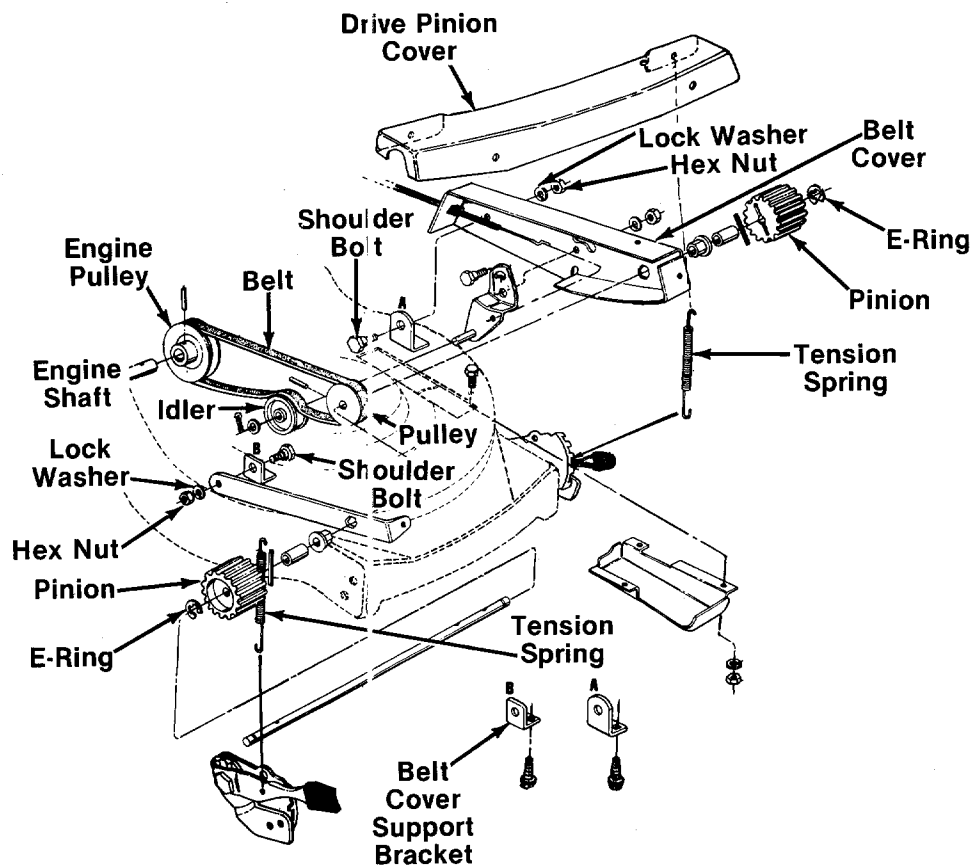

FIGURE 22.
BELT REPLACEMENT (See Figure 22)
2. Remove both tension springs. See figure 22.